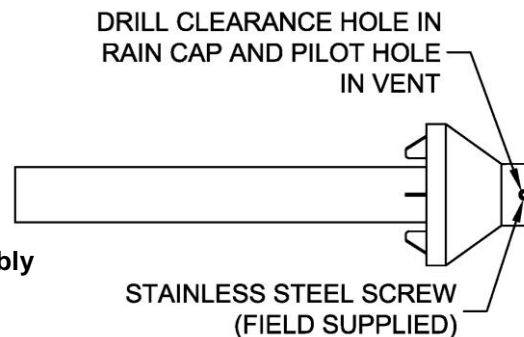

Figure 19. Rain Cap to Small Vent Pipe Assembly
- b. Cement rain cap to smaller diameter pipe. (See Figure 19).
- b. Cement rain cap to smaller diameter kit pipe. (See Figure 19).